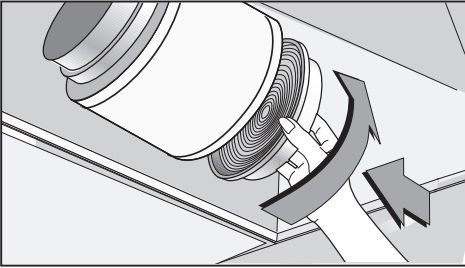

Fig.5
• Replacing LED lamps (Fig.5):